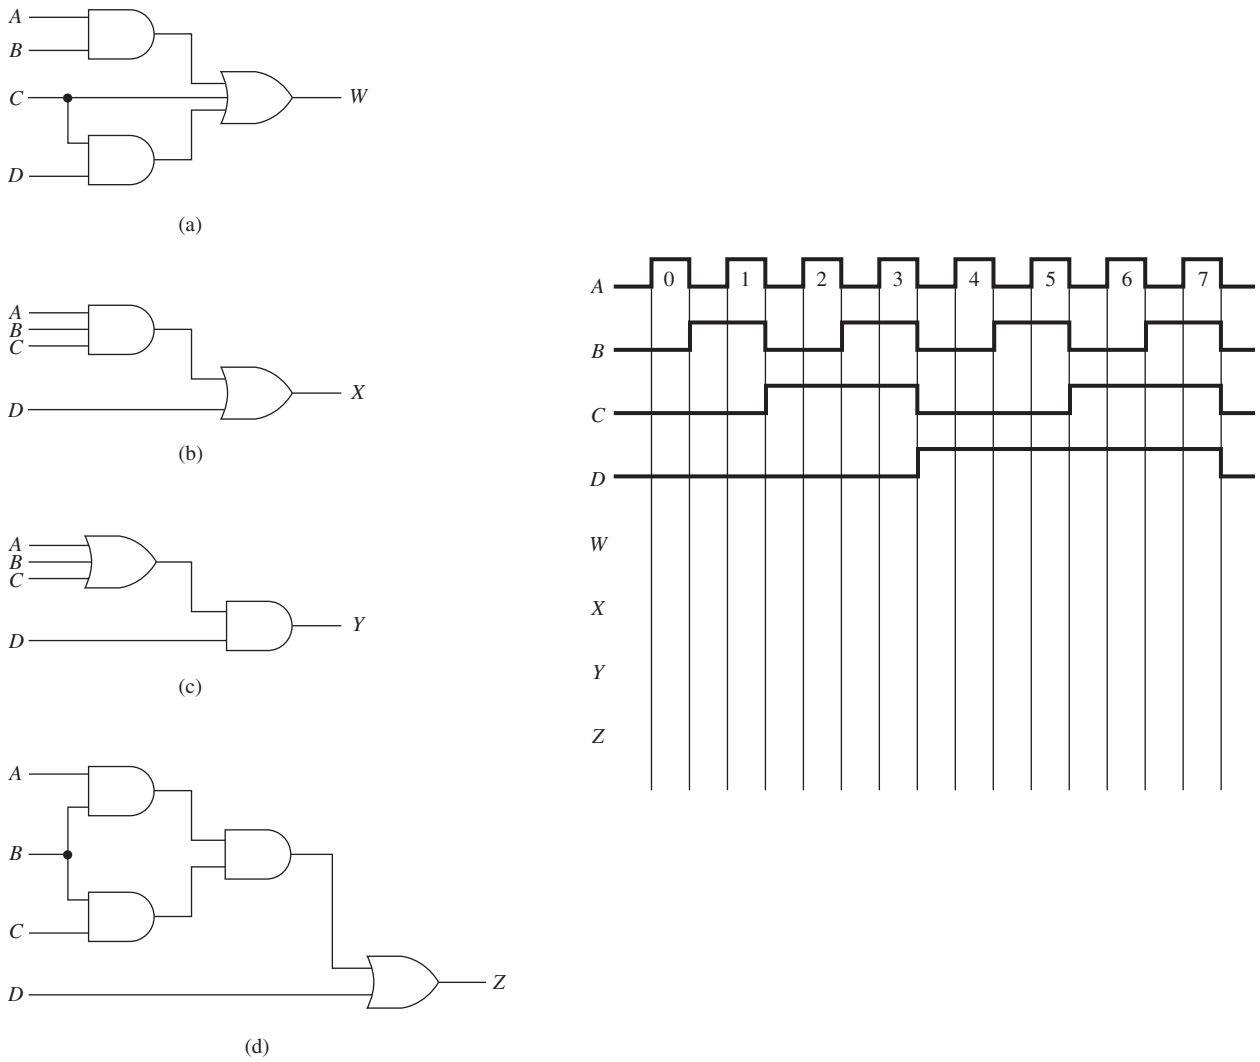

Figure P4
- (a) $M = (AB) + (C + D)$
4. Write the Boolean equation and then complete the timing diagram at W , X , Y , and Z for the logic circuits shown in Figure P4.